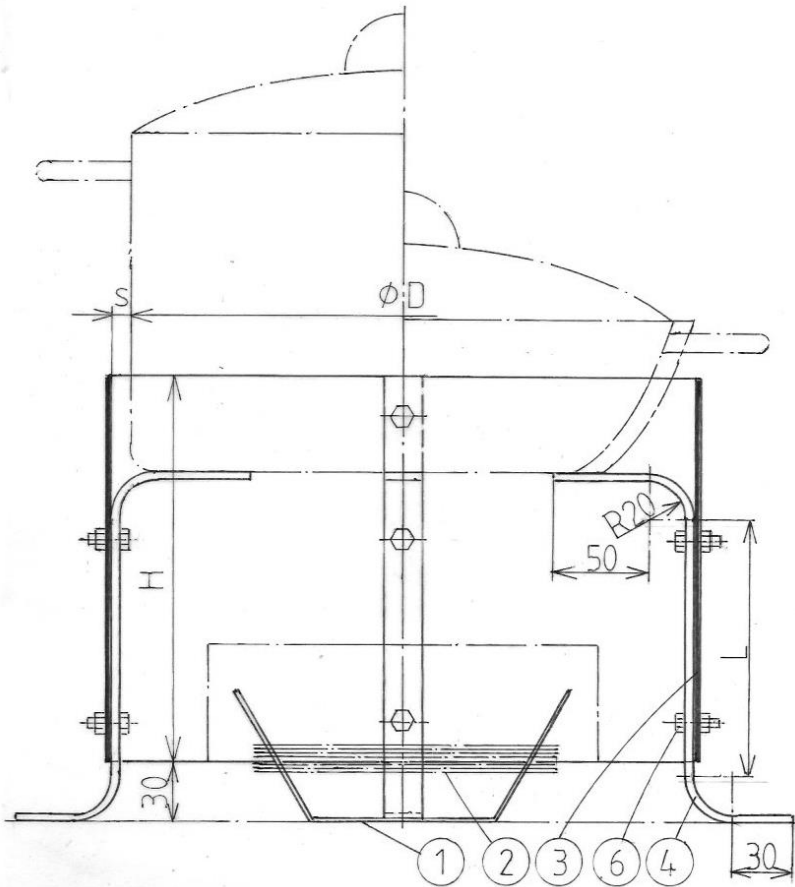
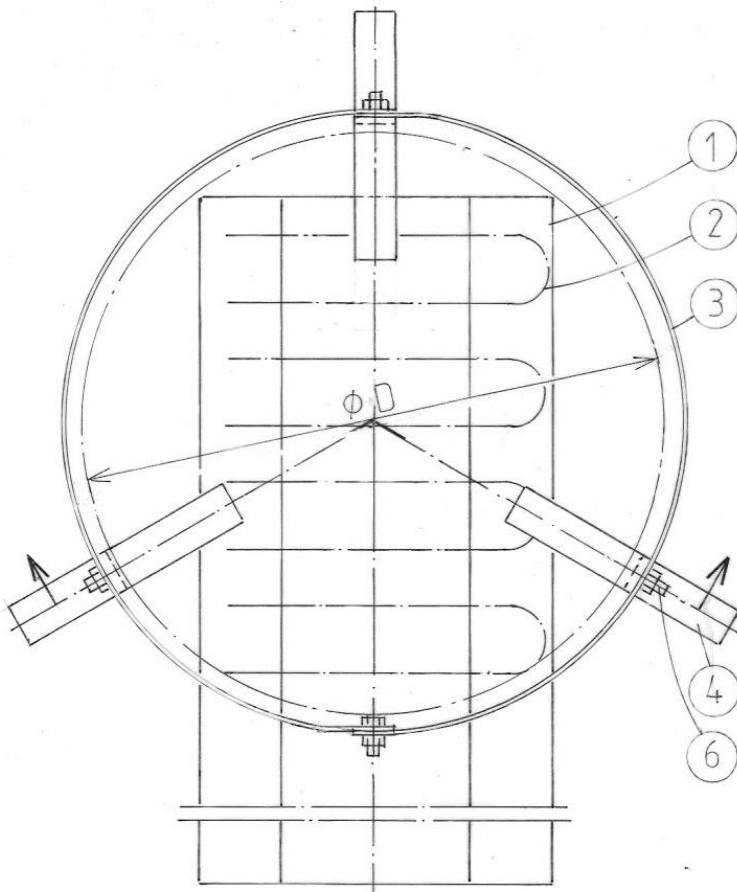

Fig. 1: Front View Ben SL
Fig. 2: Top view Ben SL
In August 2019, the author received a note from Sri Lanka, which suggests a modified construction of the tripod. The tripod elements made of steel strip are fastened to the furnace shell by screws, so that no welding is necessary. The essential parts of the Ben-Stove are maintained. We will name it "Ben SL". The parts of an example of Ben SL are described in the parts list (given below) and shown in the two drawings (Fig. 1 and 2, page 2).
Fig. 1 shows Ben-SL in section with a pot (left) and a pan. Fig. 2 is a top view. Shown are: the ash pan (1) with the built-in hairpin-shaped fire grate bars (2), the furnace shell (3), which is divided into two halves. The newly proposed tripod parts (4) are fastened to the furnace shell with two screws M6 x 15 (6) each.